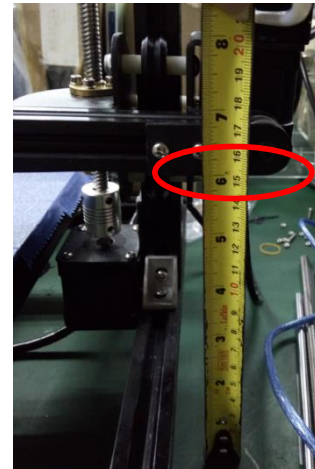

Fig 4: measure height of X-slide
3. Measure the height of X-slide, ensure the right and the left distance almost same. (*fig4*), If the height ($>1\text{mm}$) Turn the Z-coupling ensure them almost leveling.